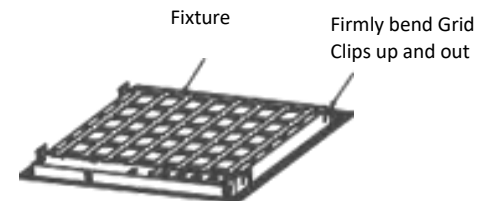

Fig.2
2. Rotate & slide the fixture as required to fit through the tree Grid Bar and place it as indicated by the directional arrow as shown in Fig. 2. Secure the Fixture to the Tee-Grid Bar